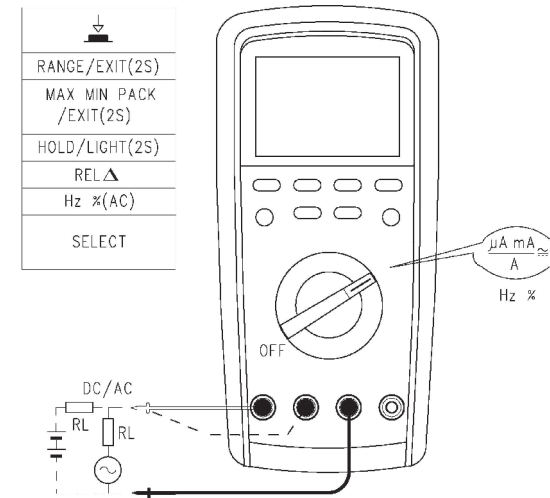

Figure 10
8. Measuring AC/DC (see Figure 10)